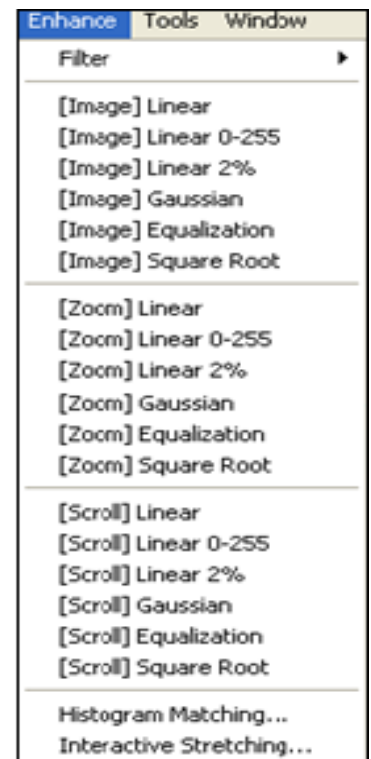

Figure 2.7a. Enhance drop down menu
- First, select the window containing the HSI image. Select the Enhance menu. A drop down list shows the built in options (Figure 2.7a).